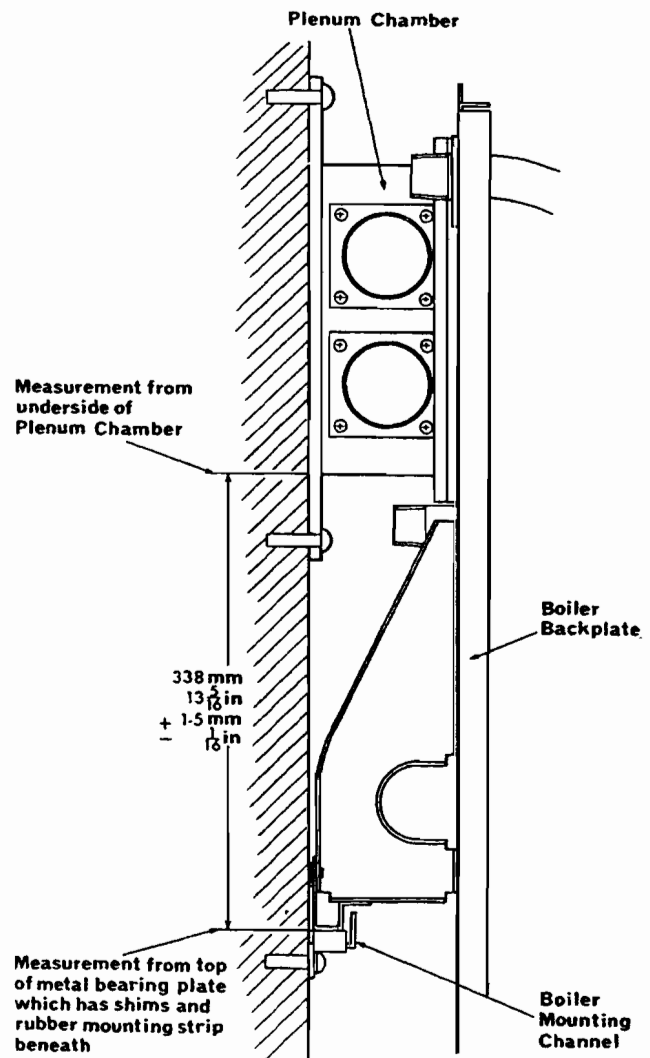

Fig. 6 RELATIVE POSITION OF PLENUM CHAMBER AND MOUNTING CHANNEL
- (10) Measure the distance from the bottom of the box section of the plenum chamber to the top of the metal bearing plate in the boiler mounting channel, see Fig. 6. Compare this dimension with the nominal dimension of 338mm. (13.5/16 in.) and by adding additional shims or removing those already in position, adjust the measured distance to equal the nominal measurement, $\pm 1.5\text{mm}$ (1/16 in.) If a more coarse adjustment is necessary, the plenum chamber and mounting channel can be moved slightly up or down on the wall using the elongated holes in their mounting flanges. It is essential that this dimension is accurately obtained, otherwise once the boiler is lifted onto its mounting channel, the screw holes in the boiler back plate will not align with those in the plenum chamber.
- (11) Make good the inside and outside wall surfaces around the liner as necessary.
- (12) Fit the balanced flue terminal over the end of the flue duct, ensuring that the duct is located inside the outlet aperture on the terminal. Secure the terminal to the wall with the two size 8, 1 in. long screws supplied (Accessories Card Item E). Note: When fitting the terminal, observe the "Top" mark on the terminal.
- (13) Remove the flue outlet grille from the terminal, then seal the gap between the outlet duct and the terminal with the sealing strip supplied.
- (14) Refit the outlet grille to the terminal so that it will direct the flue gasses sideways or downwards away from any obstruction, window, doorway, footpath or plastic pipe.
- (10) Secure the duct sealing flange and sealing rings, if applicable, to the telescopic trunking using the four screws (Accessories Card Item D).
- (11) Measure the distance from the bottom of the box section of the plenum chamber to the top of the metal bearing plate in the boiler mounting channel, see Fig. 6. Compare this dimension with the nominal dimension of 338mm (13.5/16-in.) and by adding additional shims or removing those already in position, adjust the measured distance to equal the nominal measurement, $\pm 1.5\text{mm}$ (1/16 in.) If a more coarse adjustment is necessary, the plenum chamber and mounting channel can be moved slightly up or down on the wall using the